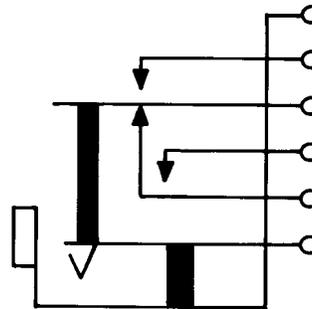

Fig. 7—462A Jack
**2.07 462A:** This single-mounted jack (Fig. 7) is heavily insulated and is used with the 347 or similar-type plug.